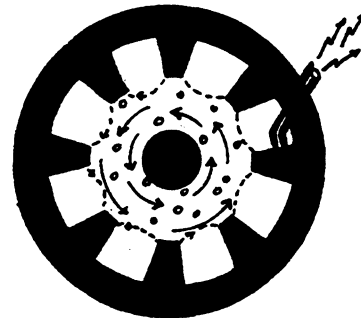

FIG. 3
1. The opening in the cabinet should be as shown in Figure 3. The bottom of this opening should be approximately 32 3/4 inches from the floor, depending on the user's preference. **NOTE:** On cabinets faced with a laminate such as formica, trim the laminate back 1/8 inch from opening. Install two 2 x 4's extending from front to back flush with the bottom and sides of the opening. These are for supporting the oven so they should be level and well blocked at the rear wall.
3. Attach cabinet installation brackets at front of cabinet opening as shown in Figures 3 and 3a. Note: Attach upper brackets so that bottom edge of bracket is 14 1/8" above bottom edge of opening. Position brackets with elongated holes outside the cabinet opening and the offset portion of the bracket against face of opening (see Figure 3a).
ELECTRICAL PREPARATION - Figure 3
3. Install a suitable conduit box (not furnished) in the back wall of the cabinet. See Figure 3. It is the installer's responsibility to locate the conduit box within reach of the supplied oven conduit.
1. The opening in the cabinet should be as shown in Figure 3. The bottom of this opening should be approximately 9 inches from the floor, depending on user's preference. **NOTE:** On cabinets faced with a laminate such as formica, trim the laminate back 1/8" from opening. Install two 2 x 4's extending from front to back flush with the bottom and sides of the opening. These are for supporting the oven so they should be level and well blocked at the rear wall.
3. Attach cabinet installation brackets at front of cabinet opening as shown in Figures 3 and 3a. Note: Attach upper brackets so that bottom edge of bracket is 37 5/8" above bottom edge of opening. Position brackets with elongated holes outside the cabinet opening and the offset portion of the bracket against face of opening (see Figure 3a).
Fig.3 is a top view of the cathode, anode and antennae. The spinning electrons between the anode and cathode generate the microwave power which is, in turn, collected by the vanes and transmitted from the magnetron by the antennae.